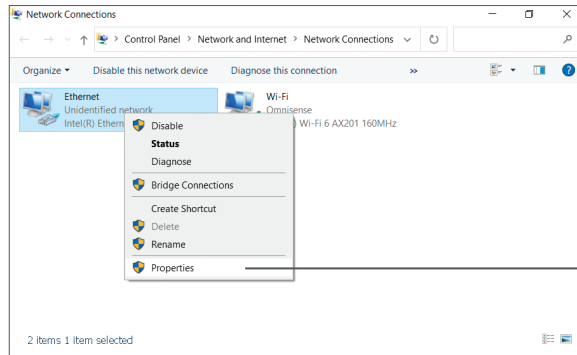

Fig. 6
2. Right-click on your Ethernet network that is connected to the Camera and click on Properties (Fig. 6).